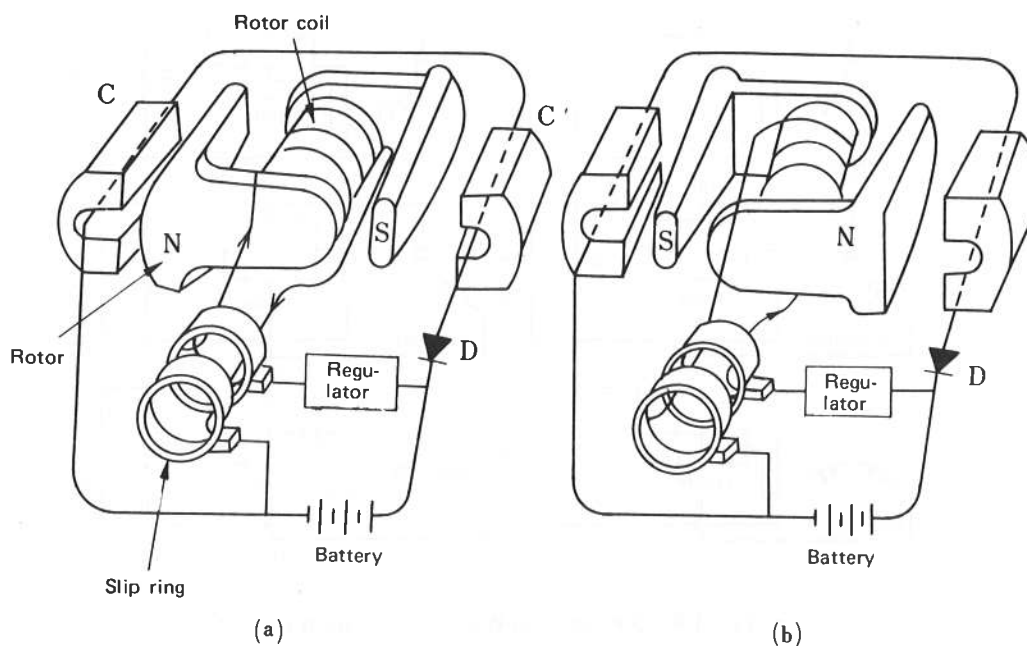

Fig. 1.4 The Principle of AC Generator
A.C. generators are generally of the rotating-field type. Fig. 1.4 illustrates the principle of AC generation. With field-revolving type generators, the generating